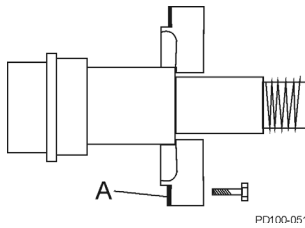

Figure 72 - Remove Sealant from Retainer
4. Remove the silicone sealant (Figure 72, item A) from the bearing retainer and gear case.